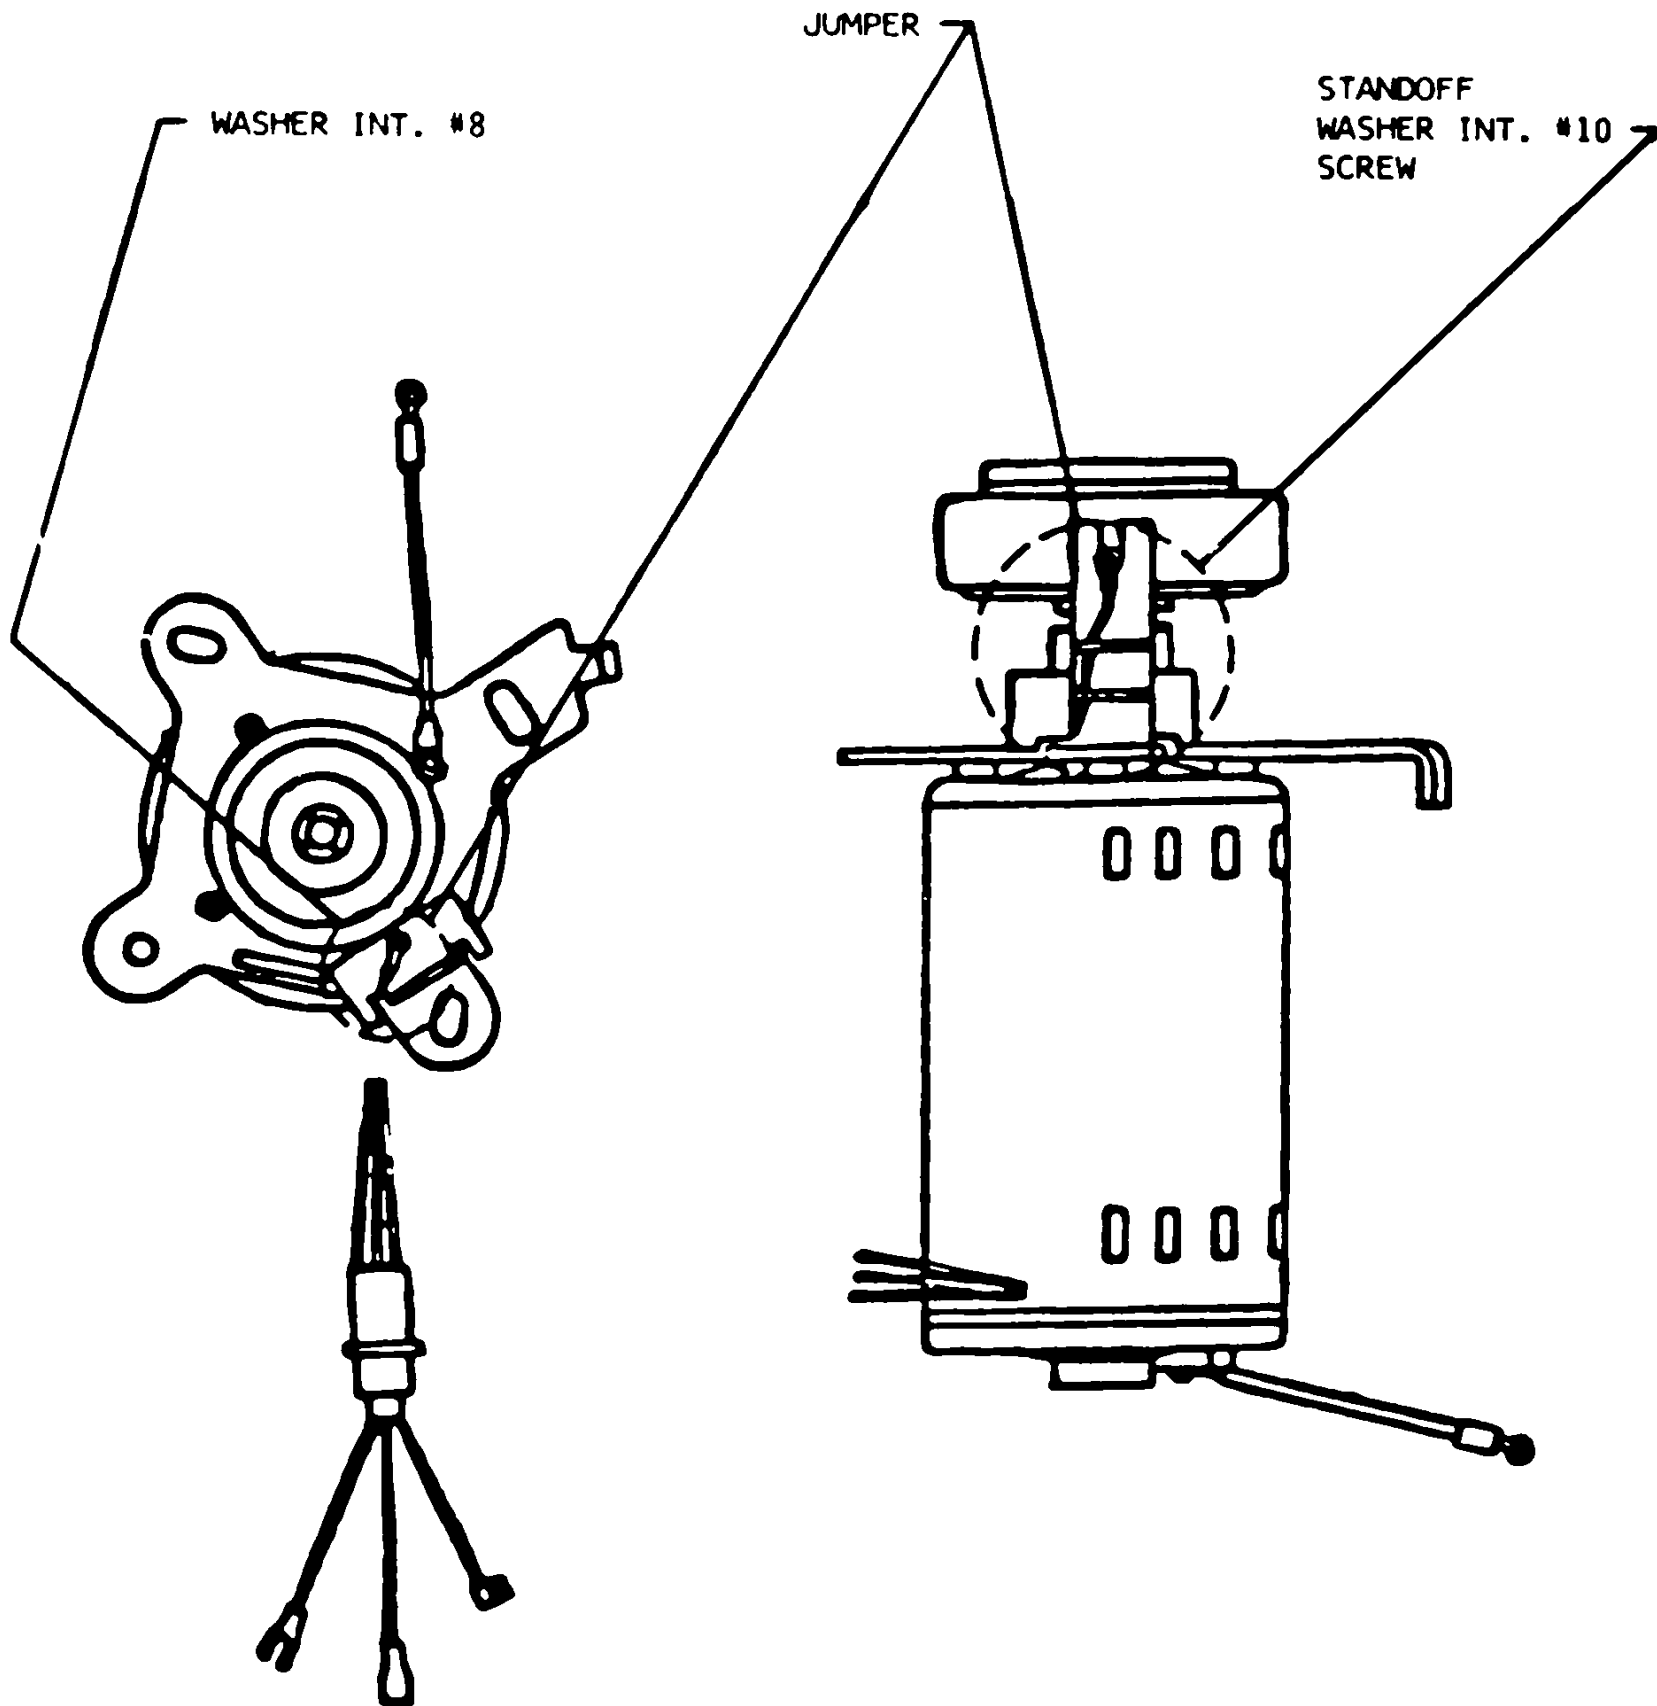

FIGURE 1
- 6- REMOVE TWO (2) SCREWS IN PACK WELL AND RAISE TOP DECK TO MAINTENANCE POSITION.
- 8- INSTALL ONE END OF GROUND JUMPER (CDC 77579946) ON DRIVE MOTOR MOUNTING PLATE USING EXISTING SCREW AND WASHER INT. #8 (CDC 10126104). (FIGURE 1)
- 9- INSTALL OTHER END OF GROUND JUMPER ASSEMBLY ON BRAKE ASSEMBLY STANDOFF USING WASHER INT. #10 (CDC 10126105), STANDOFF (CDC 73078800), AND SCREW PAN HD. (CDC 10127361). (FIGURE 1)
- 16- PURGE DRIVE WITHOUT A PACK AND ALL CIRCUIT BREAKERS ON FOR TEN (10) TO FIFTEEN (15) MINUTES.
- 19- RUN APPROPRIATE DIAGNOSTIC FOR A MINIMUM OF TEN (10) MINUTES TO ENSURE PROPER OPERATION: